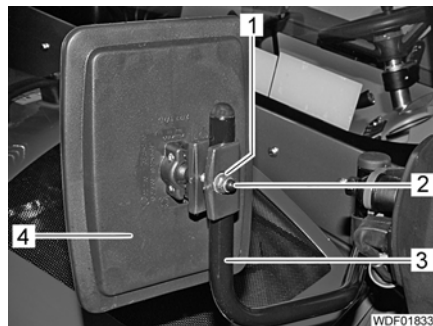

Fig. 443 Rear view mirror
- Remove cap (Fig. 443,2).
- Unscrew nut (Fig. 443,1).